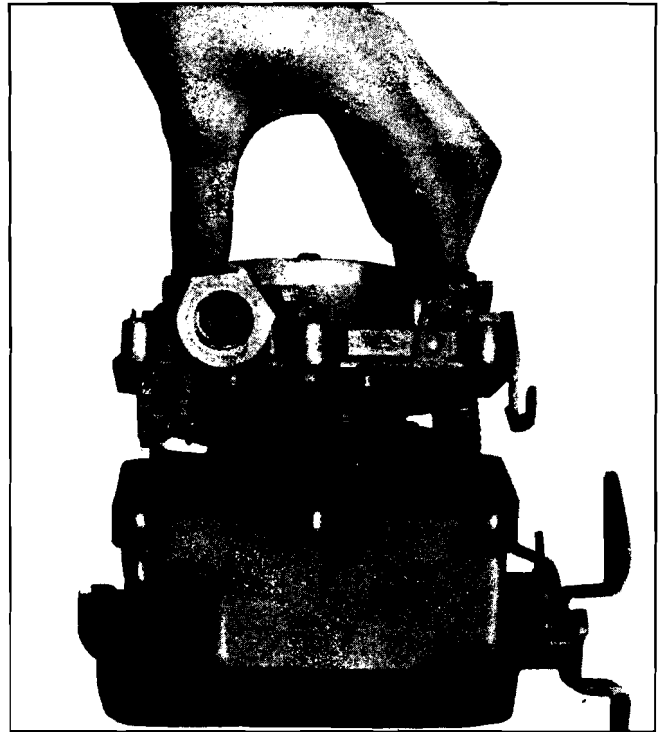

Fig. 6B-29 Air Horn Removal
5. Remove eight cover screws and lift cover from bowl (Fig. 6B-29).